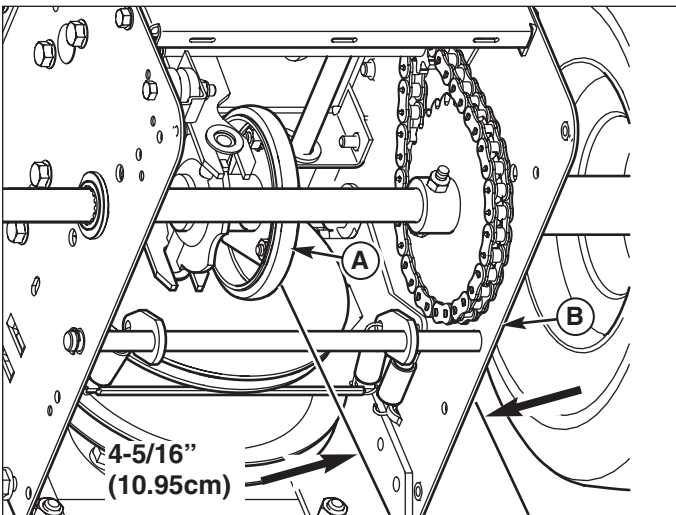

Figure 7. Friction Disc Measurement
- Note the position of the friction wheel (A, Figure 7). The correct distance from the right side of the friction wheel to the outside of the frame is 4-5/16" (10.95 cm). If the friction wheel is not in the correct position, adjust as follows.
- Move the friction wheel (A, Figure 7) to the correct distance, 4-5/16" (10.95 cm).